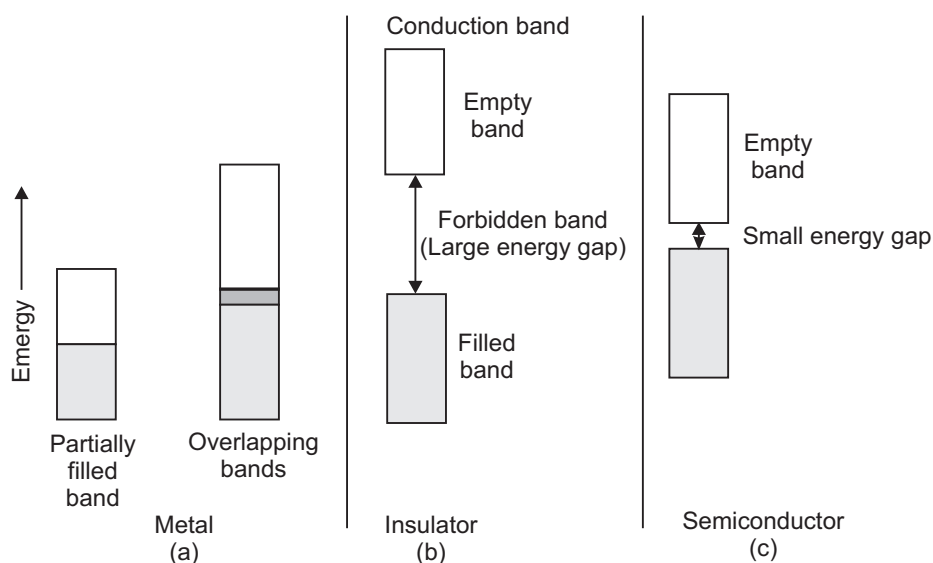

Fig. 6.27: Valence and conduction bands in (a) metals, (b) insulators and (c) semi conductors.
In a piece of metal, the number of metal atoms is very large and so is the number of their valence orbitals. This results in formation of an equally large number of molecular orbitals which are so close to one-another that they form a continuous *band*. The band in which the valence electrons are present is called **valence band**. Electrons present in this band are strongly bound to the nucleus and cannot conduct electricity. The band formed by vacant molecular orbitals of higher energy is called **conduction band**. When electrons reach conduction band from valence band on excitation, they become loosely bound to the nucleus and can conduct electricity by moving under the influence of an electric field. Such electrons are also called *free electrons*. Conductivity of a solid depends upon how easy or difficult it is for the valence electrons to jump to the conduction band. See figure 6.27.
- (i) **In conductors** either the valence band is only partially filled or it overlaps a vacant conduction band of slightly higher energy. In both the cases its electrons can easily flow under the influence of electric field and the solid behaves as a conductor (Fig. 6.27(a))
- (ii) **In insulators** the gap between the valence band and conduction band is large. Due to this the valence electrons *cannot* jump to the conduction band and conduct electricity (Fig. 6.27(b))
- (iii) **In semiconductors** the gap between the valence band and nearest conduction band is small (Fig. 6.27(c)). On applying the electric field, some electrons can jump to the conduction band and provide low conductivity. On increasing the temperature more electrons can jump to the conduction band and the conductivity increases. Silicon and germanium show this type of behaviour. They are called **intrinsic semiconductors**.